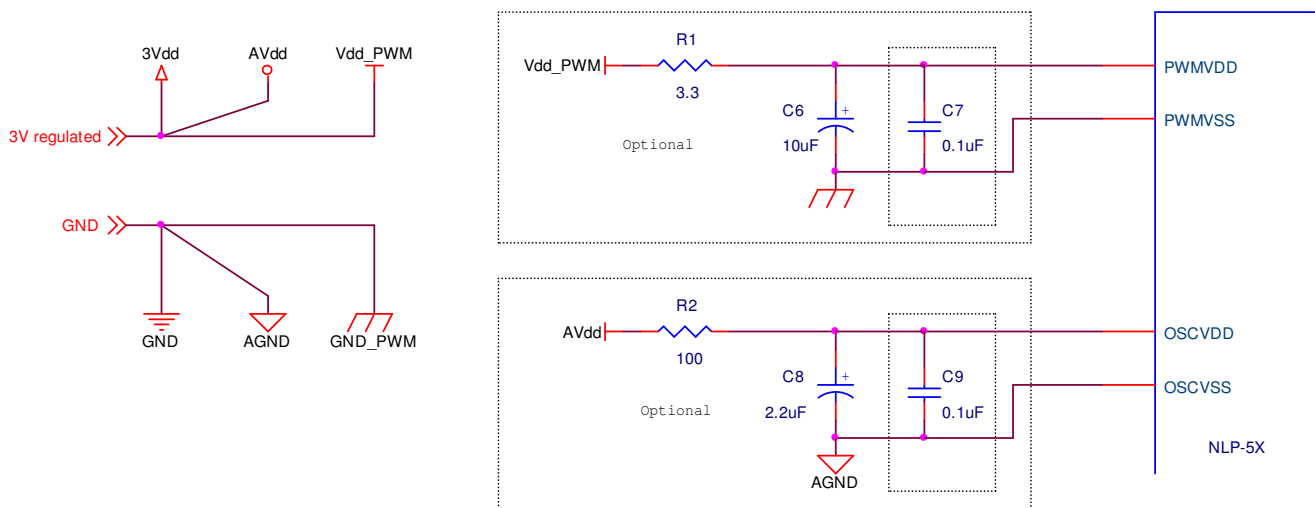

Figure 6 - Power Isolation Networks
1. The diagram in Figure 6 shows recommended “star” power and ground hookups and reference isolation networks for PWM and oscillator power supplies. Isolation on PWM and oscillator power supplies, while not mandatory, is recommended to prevent cross-coupling noise between the various power supplies.